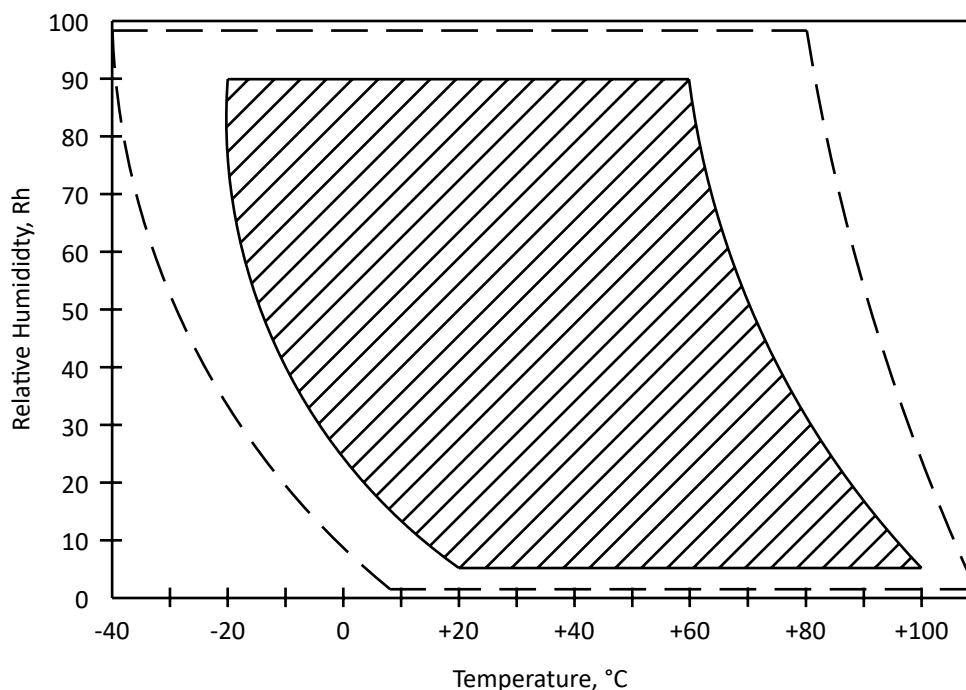

Figure 3. Operating range for Data Logger.
8.2. Figure 3 displays the operating range for Data Loggers with a Humidity Sensor.